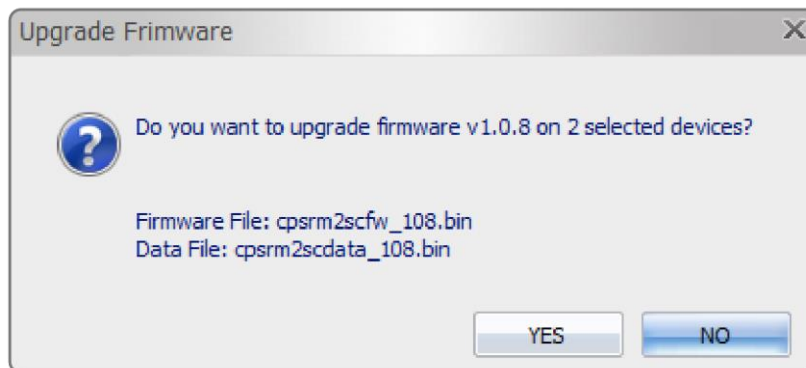

Figure 8. Confirm Upgrade Firmware message window
7. Click “Yes” to start firmware upgrade on selected devices, as shown in Figure 8.